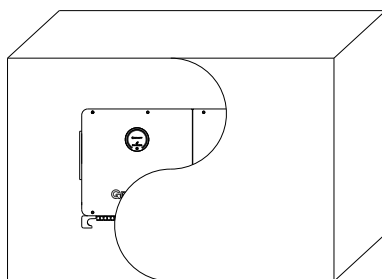

Fig 5.6
- 1> As shown in Fig 5.6, two persons are required to lift the inverter out of the package and transport it to the installation position.